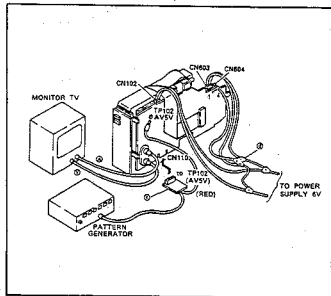

Fig. II-40
- (1) Connect each prepared devices as illustrated in the Fig. II-40.